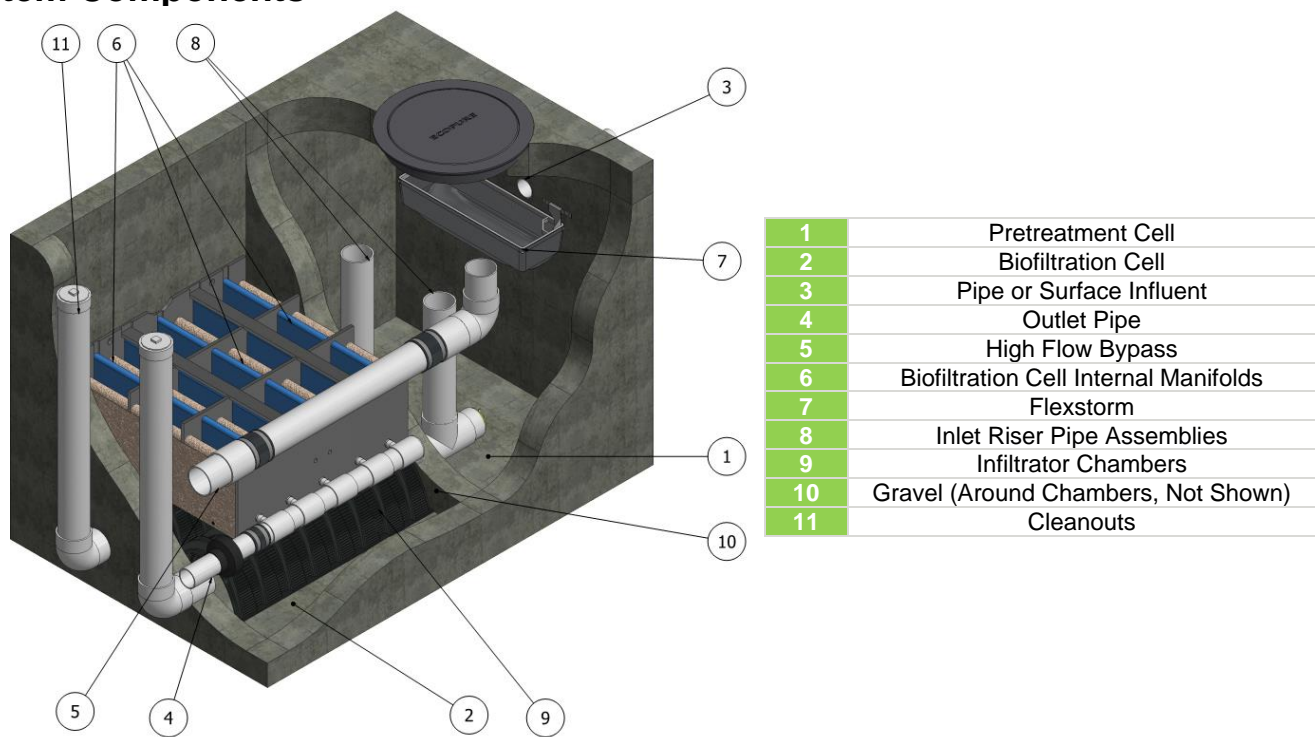

Figure 1: EcoPure Components
Biofiltration Internal HDPE Manifold comprised of perforated drain tile and PVC pipe fittings that shall meet ASTM D1785. This portion of the unit, shown by both items 6 and 4 in *Figure 1*, promotes the water's exiting of the unit following filtration by the proprietary granular media.